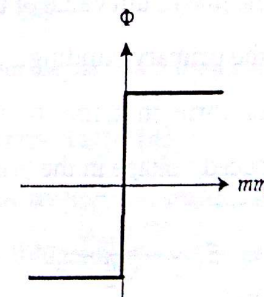

Fig. 1.5. The magnetization curve of an ideal transformer
4. The magnetization curve must have the shape shown in Fig. 1.5. Notice that for an unsaturated core the net mmf force  $mmf_{net} = 0$ , implying that  $N_1 i_1 = N_2 i_2$ .